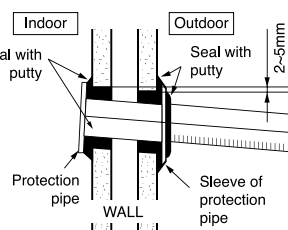

Fig. 4-1
- 4.2 Use 'bushing' to arrange all the refrigerating pipes and sealer that belong to the pipe set, as shown in figures 4-1 and 4-2.